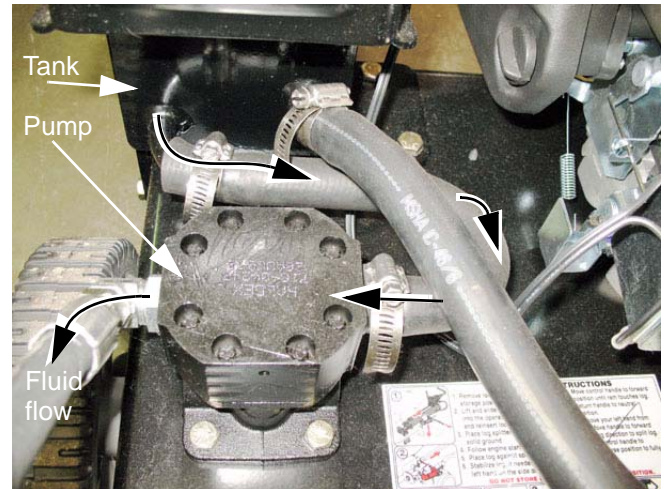

Figure 3.4
4.2. The **pump** draws fluid from the tank, and forces it under pressure to the control valve. See Figure 3.4.